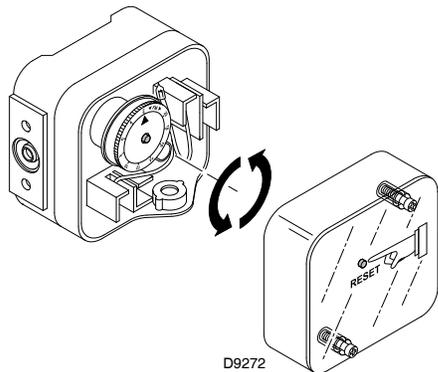

Fig. 39
- Adjust the maximum gas pressure switch (Fig. 39) to the end of the scale.